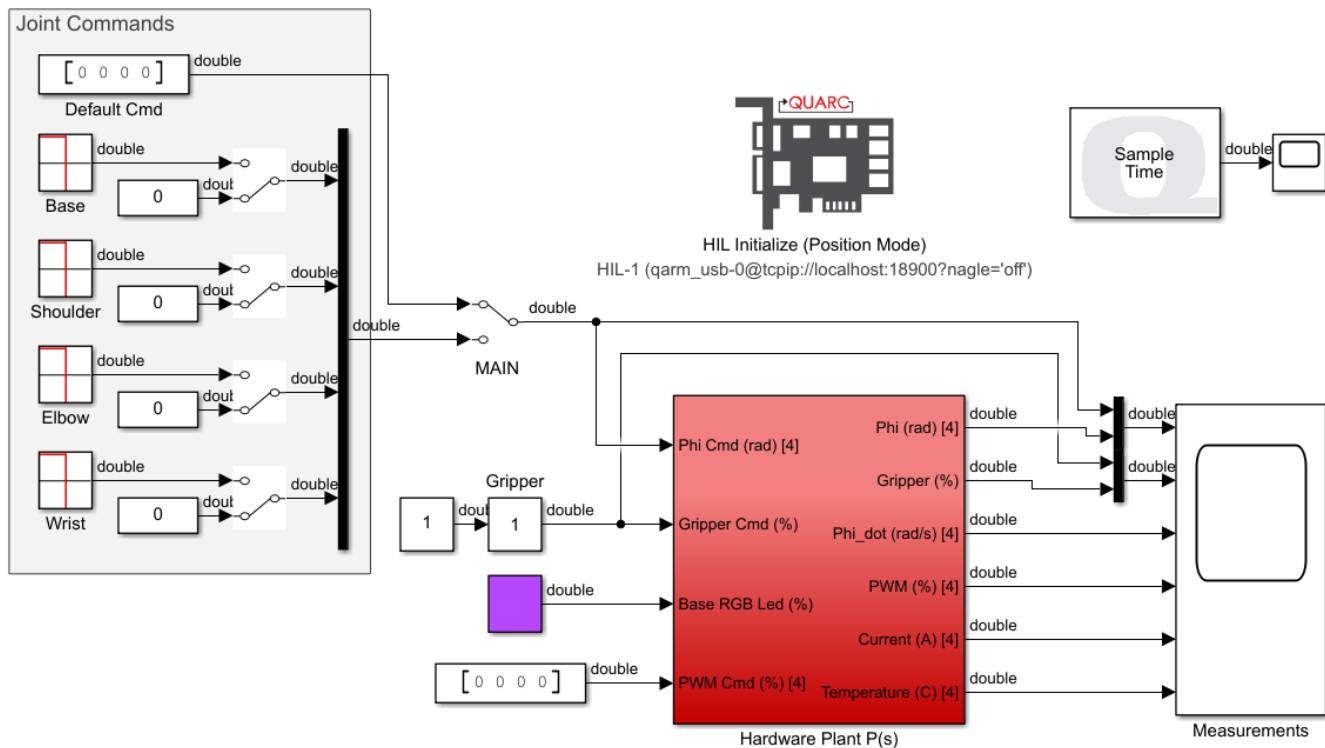

Figure 1: Simulink model that controls the QArm in position mode
1. Open the Simulink model BasicIO_position_mode.slx (Figure 1). You will use the model to apply position commands to the base, shoulder, elbow, and wrist joints, in addition to controlling the gripper. The model also acquires and displays a variety of sensor feedback.